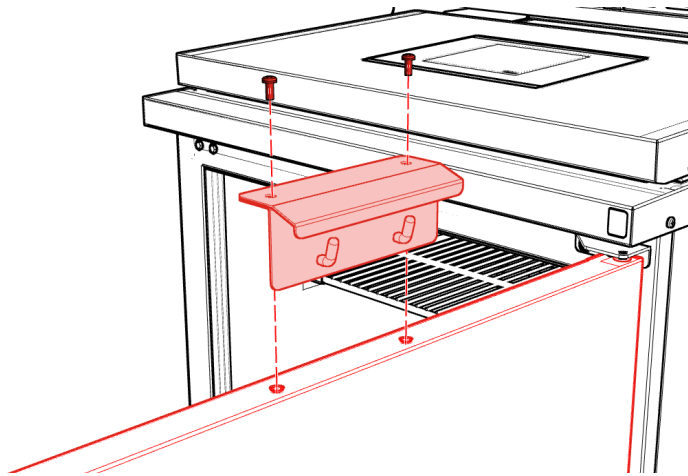

Fig. 8
Remove two (2) screws fastening glove bracket to top of door. Set bracket aside, and reinstall screws into open holes in door (Fig. 8).